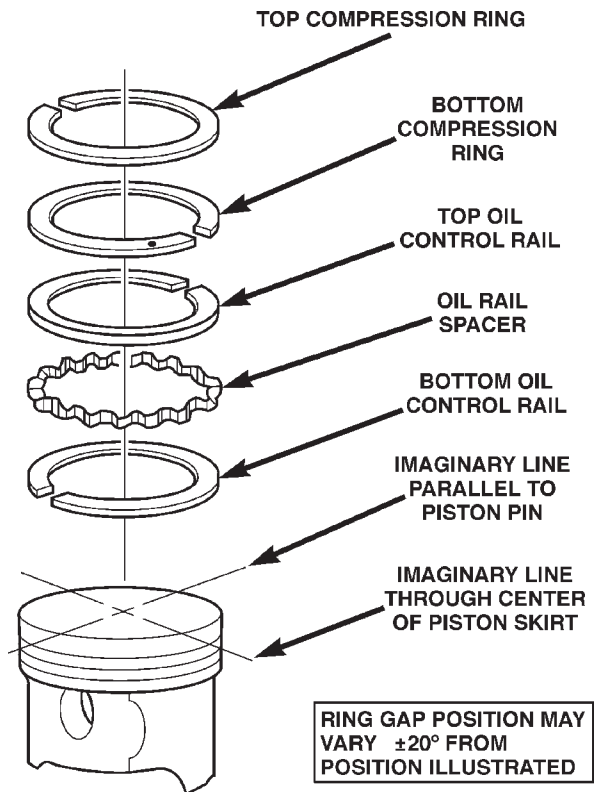

Fig. 12 Ring Gap Orientation
- Position the gaps on the piston as shown (Fig. 12).